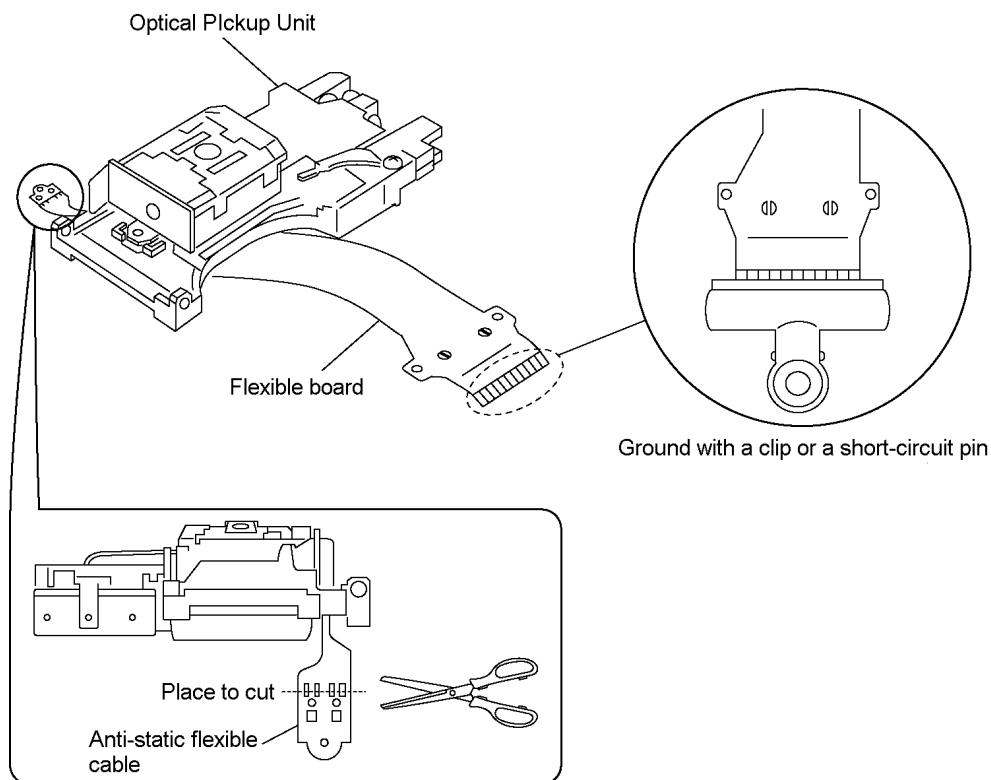
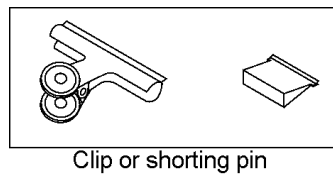

Fig. 8-1
Fig. 8-2
2. Short-circuit the flexible cable of optical pickup removed from the circuit board using a short-circuit pin or clip in order to prevent laser diode from electrostatic destruction. (Refer to Fig. 8-1 and Fig. 8-2.)
3. Do not handle flexible cables forcibly as this may cause snapping. Handle the parts carefully. (Refer to Fig. 8-1)
4. A new optical pickup is equipped with an anti-static flexible cable. After replacing and connecting to the flexible board, cut the anti-static flexible cable. (Refer to Fig. 8-1)